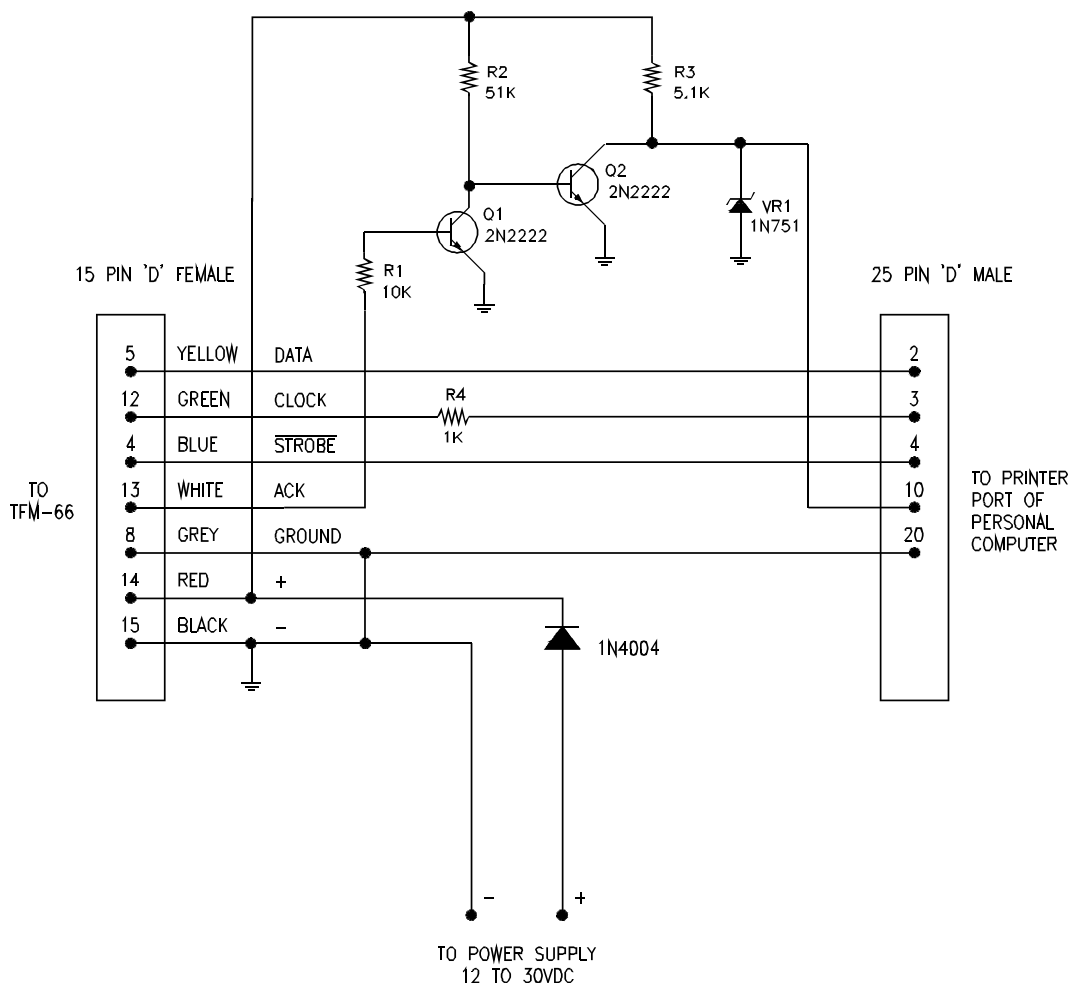

FIGURE 2.2 TFM-66 Transceiver PC Up/Download Cable - wiring diagram
3. PIB-100 Programming Interface Box (p/n 001108-1) - use cables that are provided with the PIB-100 programming interface box. Do not use cable p/n 943165-4 which is shown in Figure 2.2 and is for use with the DOS program only.
3. 3.PC Download cable (p/n 943165-4) see figure 2-2.